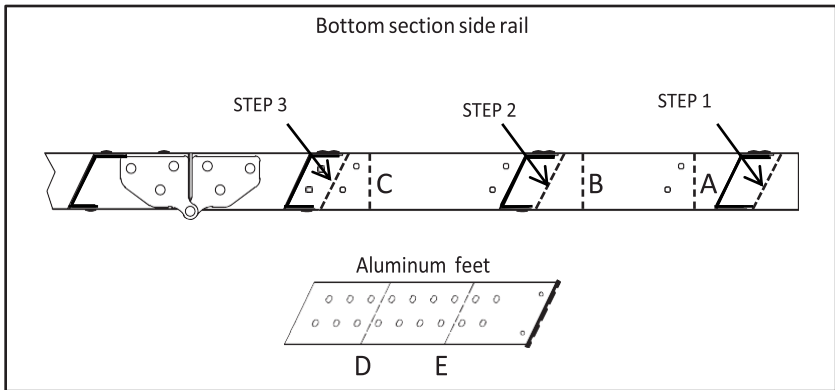

FIGURE 12
B. Determine the location to cut the ladder rail and ladder feet for your ceiling height. Follow table 3 and Figure 12.